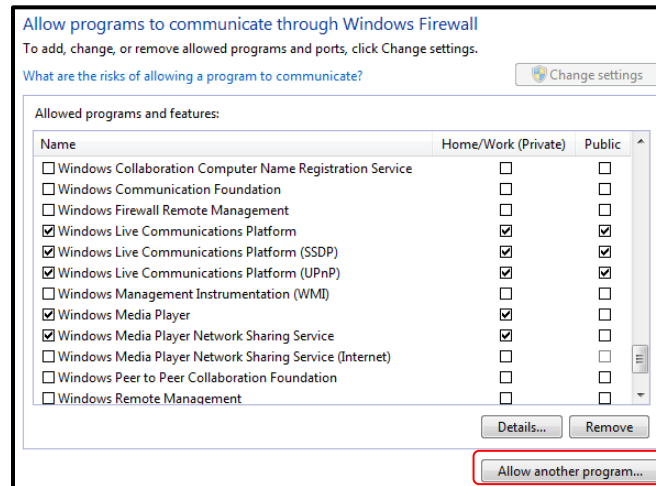

Figure 86 - Adding another program to allowed list
4. Click the “Allow another program...” button. Refer to Figure 86.